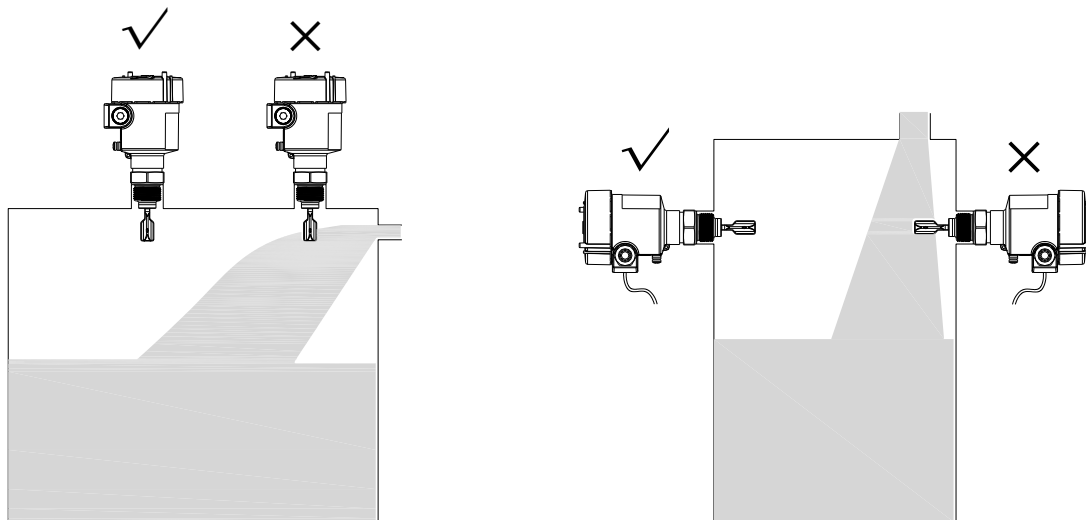

Fig.3: Avoid mounting at filling opening
- To prevent the instrument from filling impact damage or generating false signals, avoid installing instrument near inlet and outlet, as shown in Fig. 3.